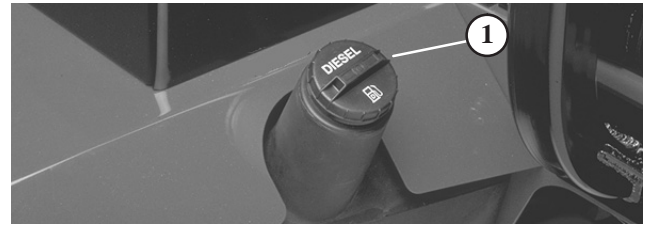

Figure 17
1. Remove fuel tank cap (Fig. 17).